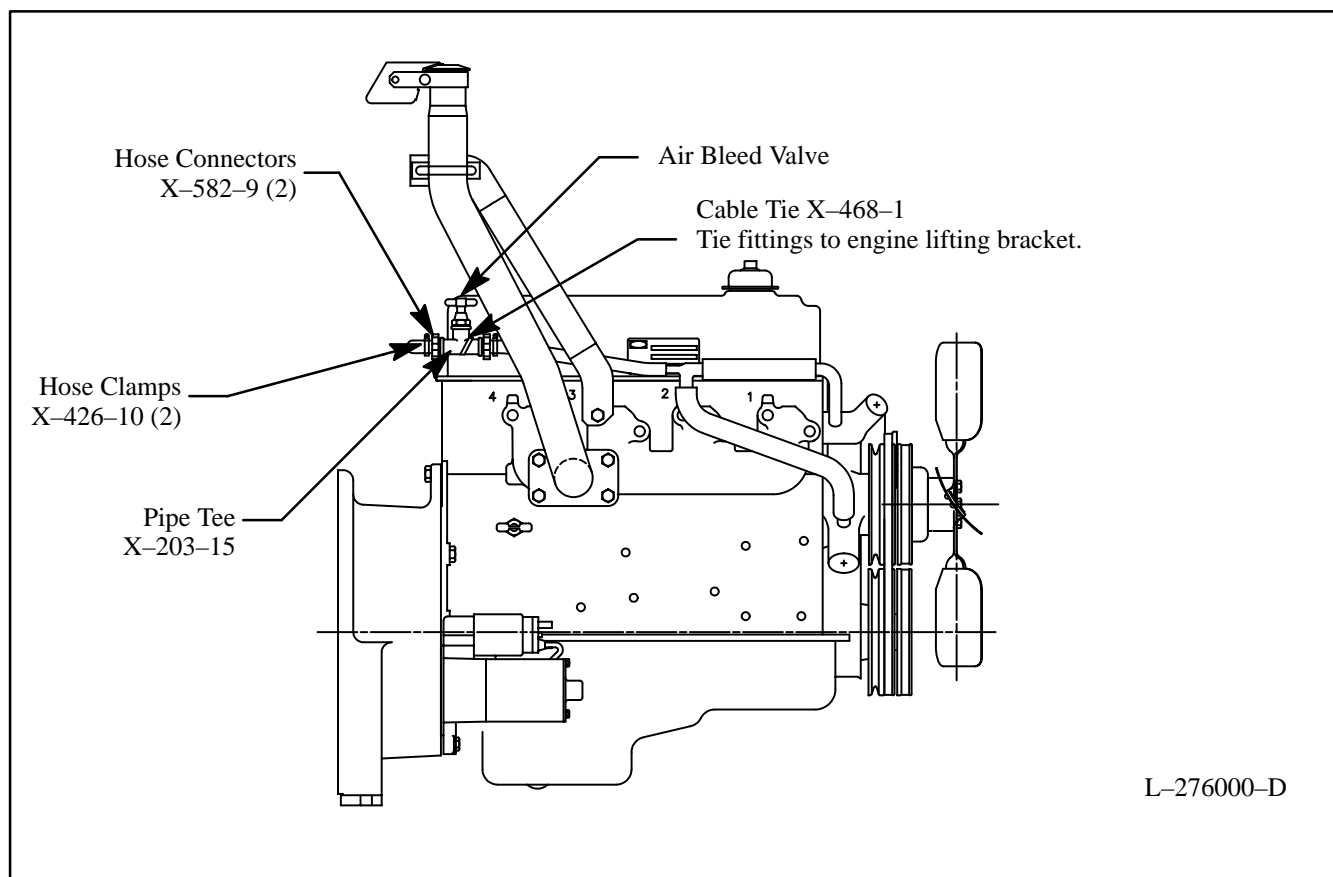

Figure 7. Locating Air Bleed Valve
If air bleed valve location already resembles Figure 7, skip Step 8 and proceed to Step 9.
8. Adding air bleed valve. See Figure 7.